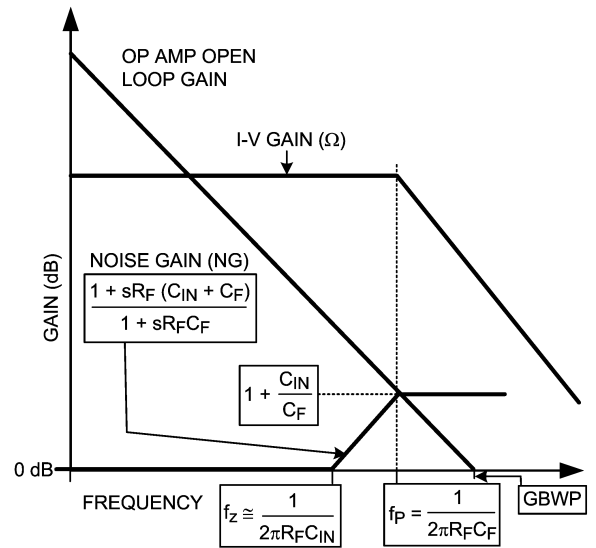

FIGURE 15. Transimpedance Amplifier Graphical Stability Analysis and Compensation
The diode capacitance (C_D) along with the input capacitance of the LMH6601 (C_A) has a bearing on the stability of this circuit and how it is compensated. With large transimpedance gain values (R_F), the total combined capacitance on the amplifier inverting input ($C_{IN} = C_D + C_A$) will work against R_F to create a zero in the Noise Gain (NG) function (see *Figure 15*). If left untreated, at higher frequencies where NG equals the open loop transfer function there will be excess phase shift around the loop (approaching 180°) and therefore, the circuit could be unstable. This is illustrated in *Figure 15*.
Figure 15 shows that placing a capacitor, C_F , with the proper value, across R_F will create a pole in the NG function at f_p . For optimum performance, this capacitor is usually picked so that NG is equal to the op amp's open loop gain at f_p . This will cause a "flattening" of the NG slope beyond the point of intercept of two plots (open loop gain and NG) and will result in a Phase Margin (PM) of 45° assuming f_p and f_z are at least a decade apart. This is because at the point of intercept, the NG pole at f_p will have a 45° phase lead contribution which leaves 45° of PM. For reference, *Figure 15* also shows the transimpedance gain (I-V (Ω))
The op amp noise voltage will be gained up in the region between the noise gain's "zero" and its "pole" (f_z and f_p in Figure 15). The higher the values of R_F and C_{IN} , the sooner the noise gain peaking starts and therefore its contribution to the total output noise would be larger. It is obvious to note that it is advantageous to minimize C_{IN} (e.g. by proper choice of op amp, by applying a reverse bias across the diode at the expense of excess dark current and noise). However, most low noise op amps have a higher input capacitance compared to ordinary op amps. This is due to the low noise op amp's larger input stage.